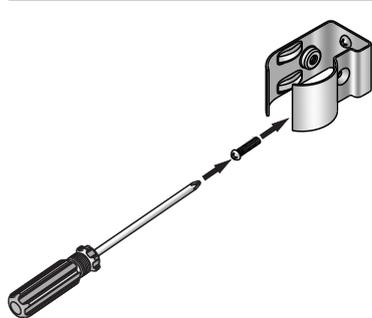

Fig.2
- a. Choose proper position to fix clap with screw according to Fig. 2.